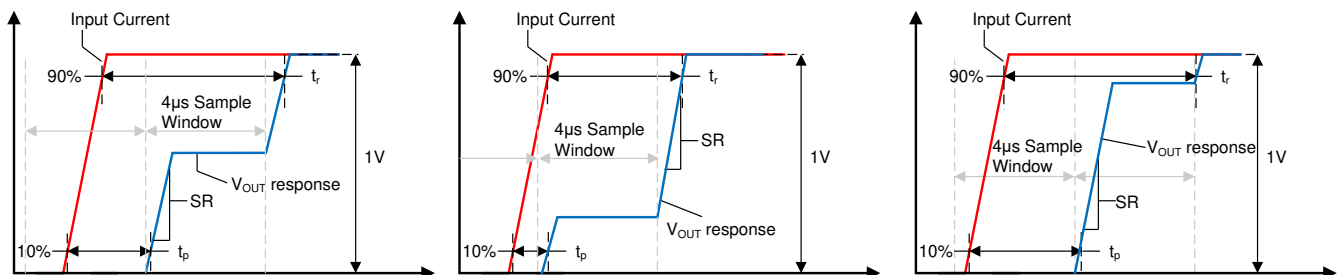

Figure 8-3. Small Current Input Step Transient Response
Slew rate (SR) is defined as the  $V_{OUT}$  rate of change for a single integration step's output transition, as shown in Figure 8-3. Because the device often requires two sampling windows to reach a full 90% settling of its final value, this slew rate is not equal to the 10%-90% transition time for the full output swing.
Propagation delay is the time period between the input current waveform reaching 10% of its final value and  $V_{OUT}$  reaching 10% of its final value. This propagation delay is heavily dependent upon the alignment of the input current step and the sampling period of the TMCS1107-Q1, as shown for several different sampling window cases in Figure 8-3.
Response time is the time period between the input current reaching 90% of its final value and the output reaching 90% of its final value, for an input current step sufficient to cause a 1-V transition on the output. Figure 8-3 shows the response time of the TMCS1107-Q1 under three different time cases. Unless a step input occurs directly during the beginning of one sampling window the response time will include two sampling intervals.